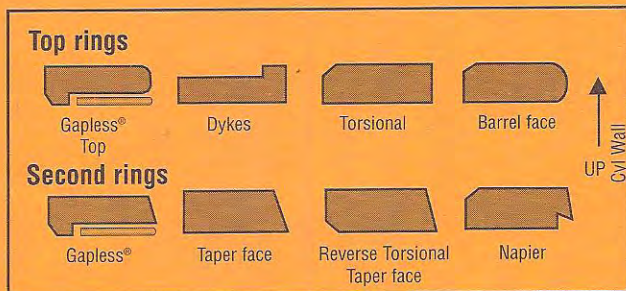

Fig. 3
- 3) Rings without dot or inner bevel install either side up (see fig. 3).
- 3) Rings without a dot or inner bevel install either side up (see fig. 3).